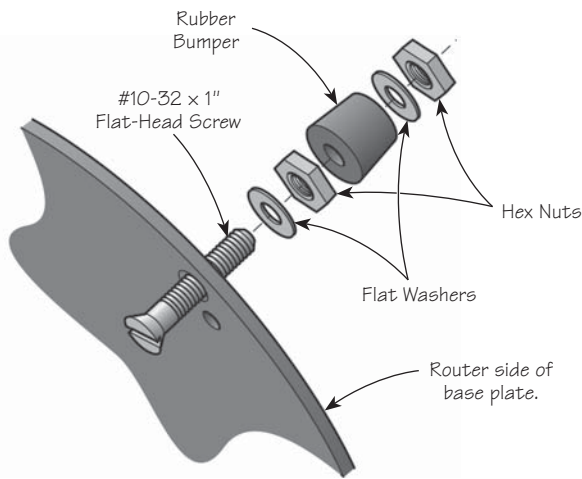

Figure 7: Installing the rotation limiter to base plate.
- Using the countersink bit provided, countersink the **outermost** $\frac{3}{16}$ " hole from the top side of the base plate (side opposite to router), deep enough so the 10-32 flat-head screw sits just below the base plate surface. Secure the flat-head screw by tightening the inner nut against the base plate. Install the rubber bumper and remaining hardware as shown in **Figure 7**.